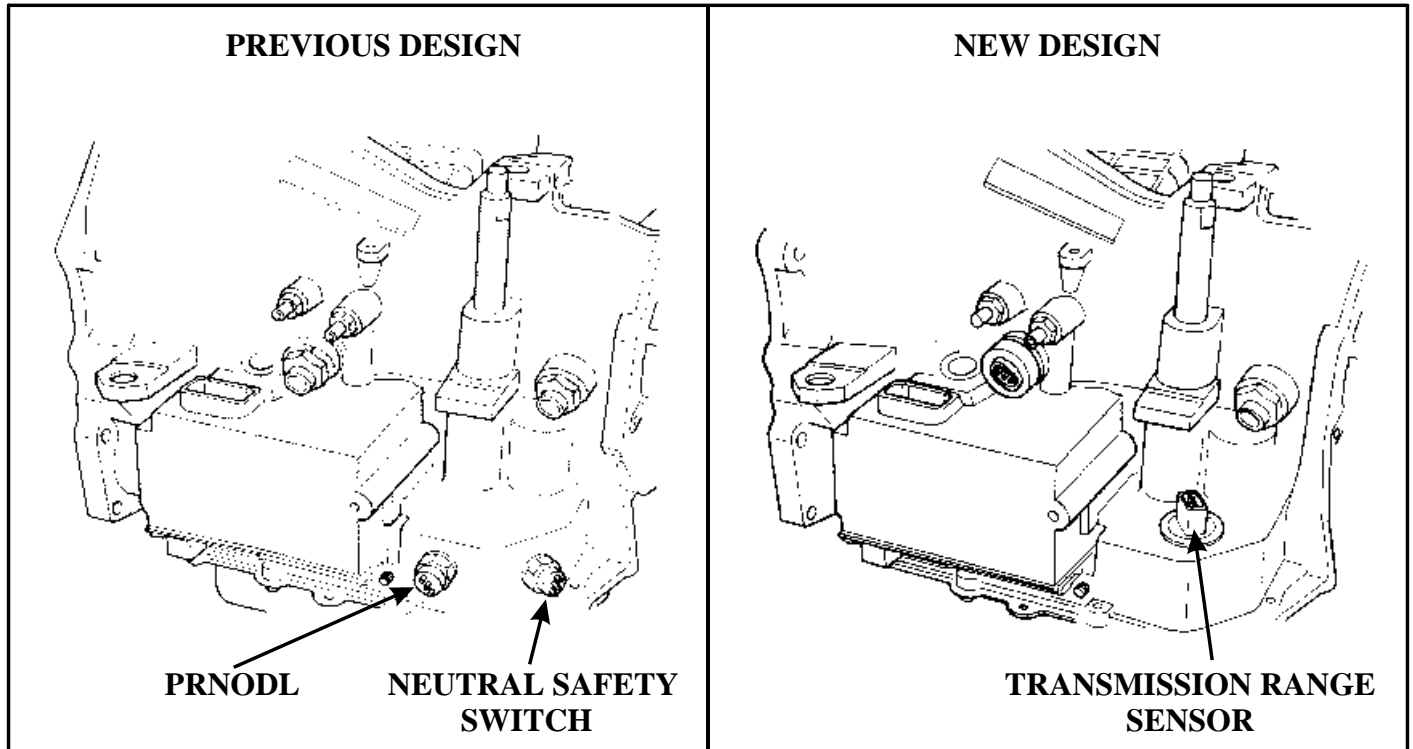

Figure 73
CHANGE: Beginning at the start of production 1996, some models equipped with the 41TE (A604) transaxle replaced the PRNODL and Neutral Safety Switch with a Transmission Range Sensor as seen in Figure 73.
- (1) PRNODL SWITCH - The previously used Park, Reverse, Neutral, Overdrive, Drive, Low Switch (PRNODL) has been eliminated and replaced with the new Transmission Range Sensor (See Figure 73).
- (2) NEUTRAL SWITCH - The previously used Neutral Switch has been eliminated and replaced with the new Transmission Range Sensor (See Figure 73).
- (3) TRANSAXLE CASE - The casting of the case change with the elimination of the two threaded holes for the PRNODL and Neutral Safety Switch. An access hole has been added to accommodate the new TRS sensor connector as the switch which is mounted on the valve body (See Figure 73).